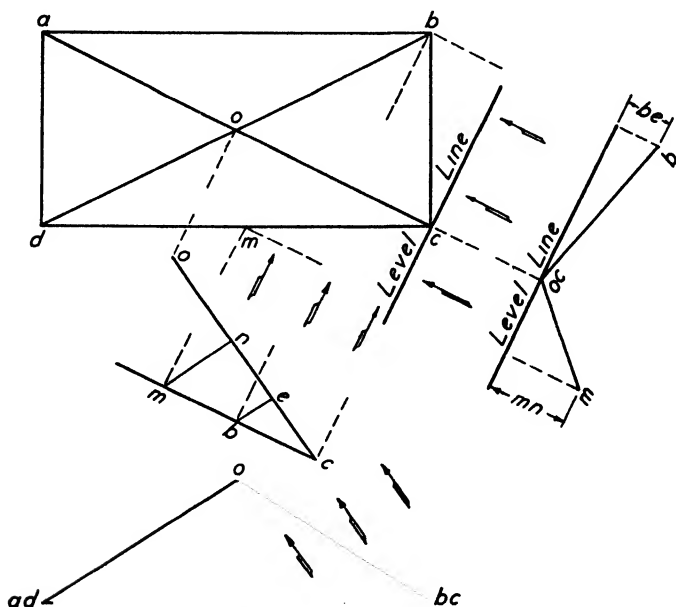

FIG. 15a.—A line view of a pyramid.
Let us now consider a pyramid with a rectangular base as shown in Fig. 15a. It is required to find the angle between the faces at the hip lines,
- 15-10. Would the answer be changed in Fig. 15a if points other than *b* and *m* are taken in the two adjacent eaves?